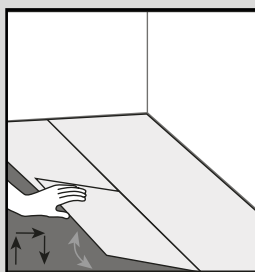

Fig. 3
4. Start the second row by clicking the tongue into the groove holding the plank at an angle (approximately 30°), then tap the plank firmly into the groove of the first row. Install the next plank by easing the tongue and groove together on the longside (Fig. 3).